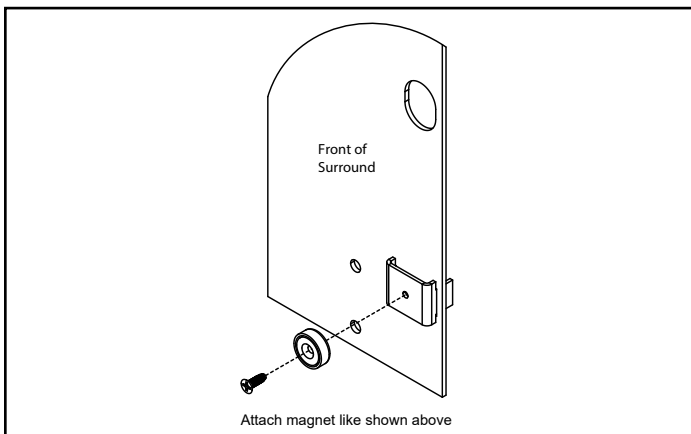

Figure 5.17
5. Secure the magnet to the bracket. The magnet is facing the front (**Figure 5.17**).